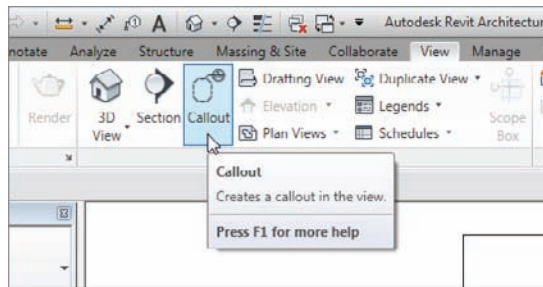

FIGURE 3.62 The Callout button is located on the View tab.
3. On the View tab, click the Callout button, as shown in Figure 3.62.